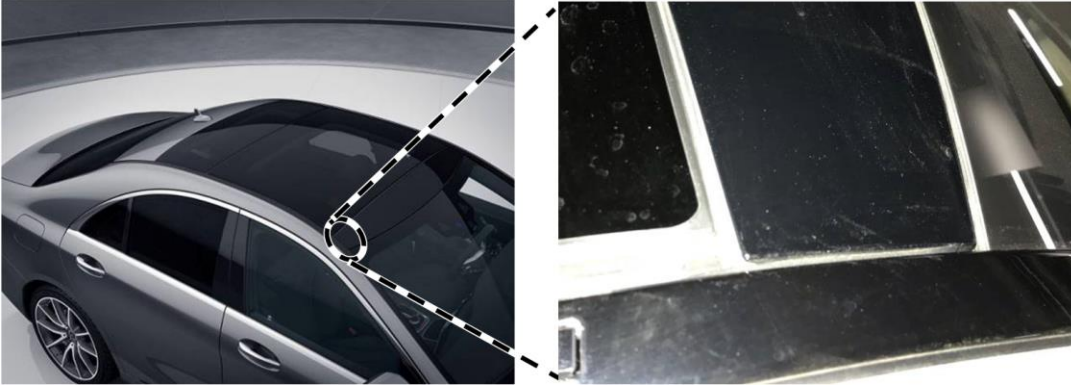

Figure 2
2. Fixed panel (**Figure 2**) made from polycarbonate (PC) ⇒ **repair is needed**